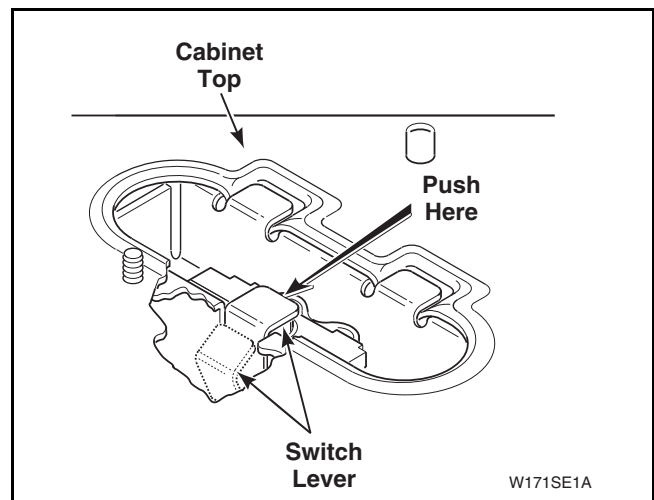

Figure 30
- c. Move switch lever off switch plunger by moving lever back under cabinet top. Refer to *Figure 30*.